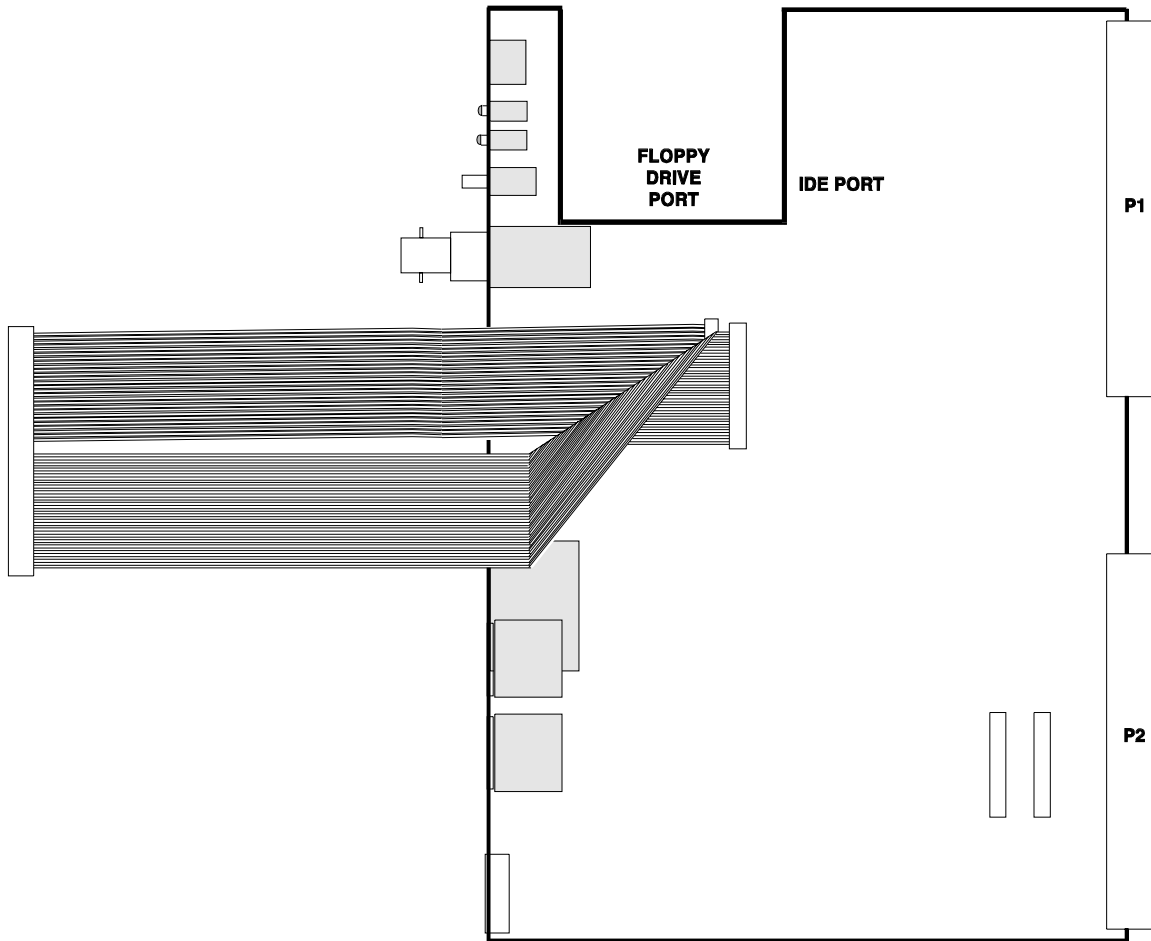

Figure 1. Connecting the Cable Assembly to the CPU
3. Attach the 360-000160-026 cable assembly to the CPU board by completing the following two steps (See Figure 1).